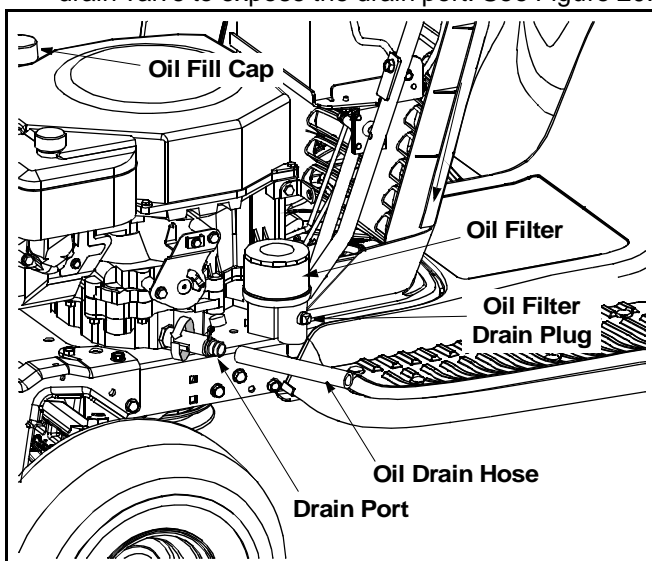

Figure 20
- Pop open the protective cap on the end of the oil drain valve to expose the drain port. See Figure 20.
- Push the oil drain valve in slightly, then rotate counterclockwise and pull outward to begin draining oil. See Figure 20.
- Remove the oil filter drain plug located at the base of the oil filter adapter. Allow the oil filter to drain before replacing the oil filter drain plug. See Figure 20.